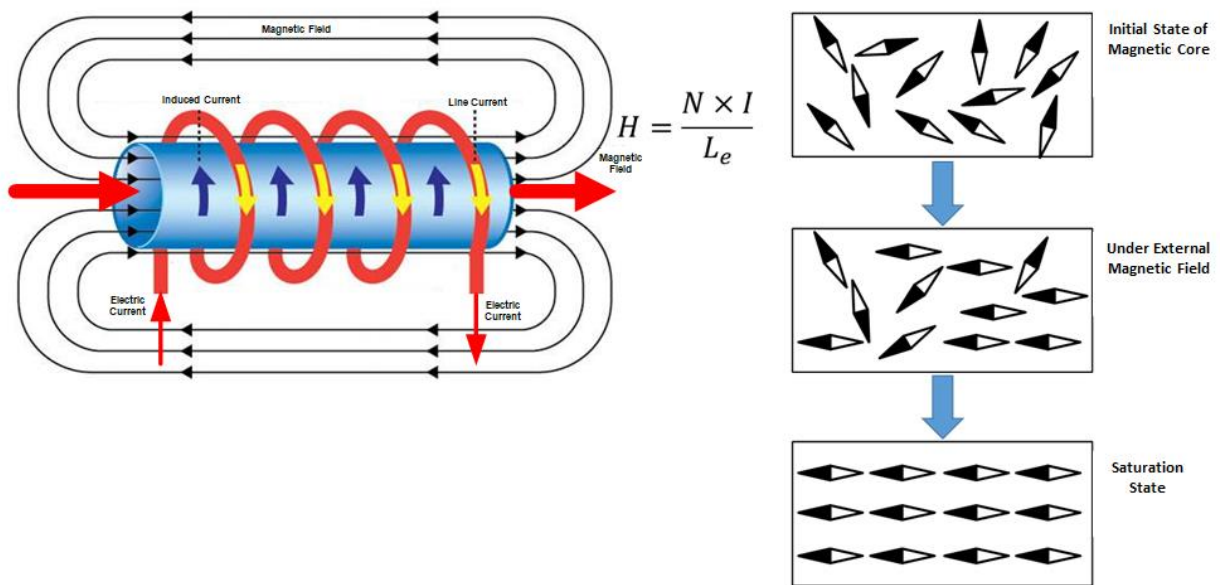

Figure 1: Inductor Saturation Diagram
To understand how an inductor becomes saturated, see Figure 1 and the steps for inductor saturation described below:
1. When current is passed through the coil in Figure 1, the coil generates a magnetic field.